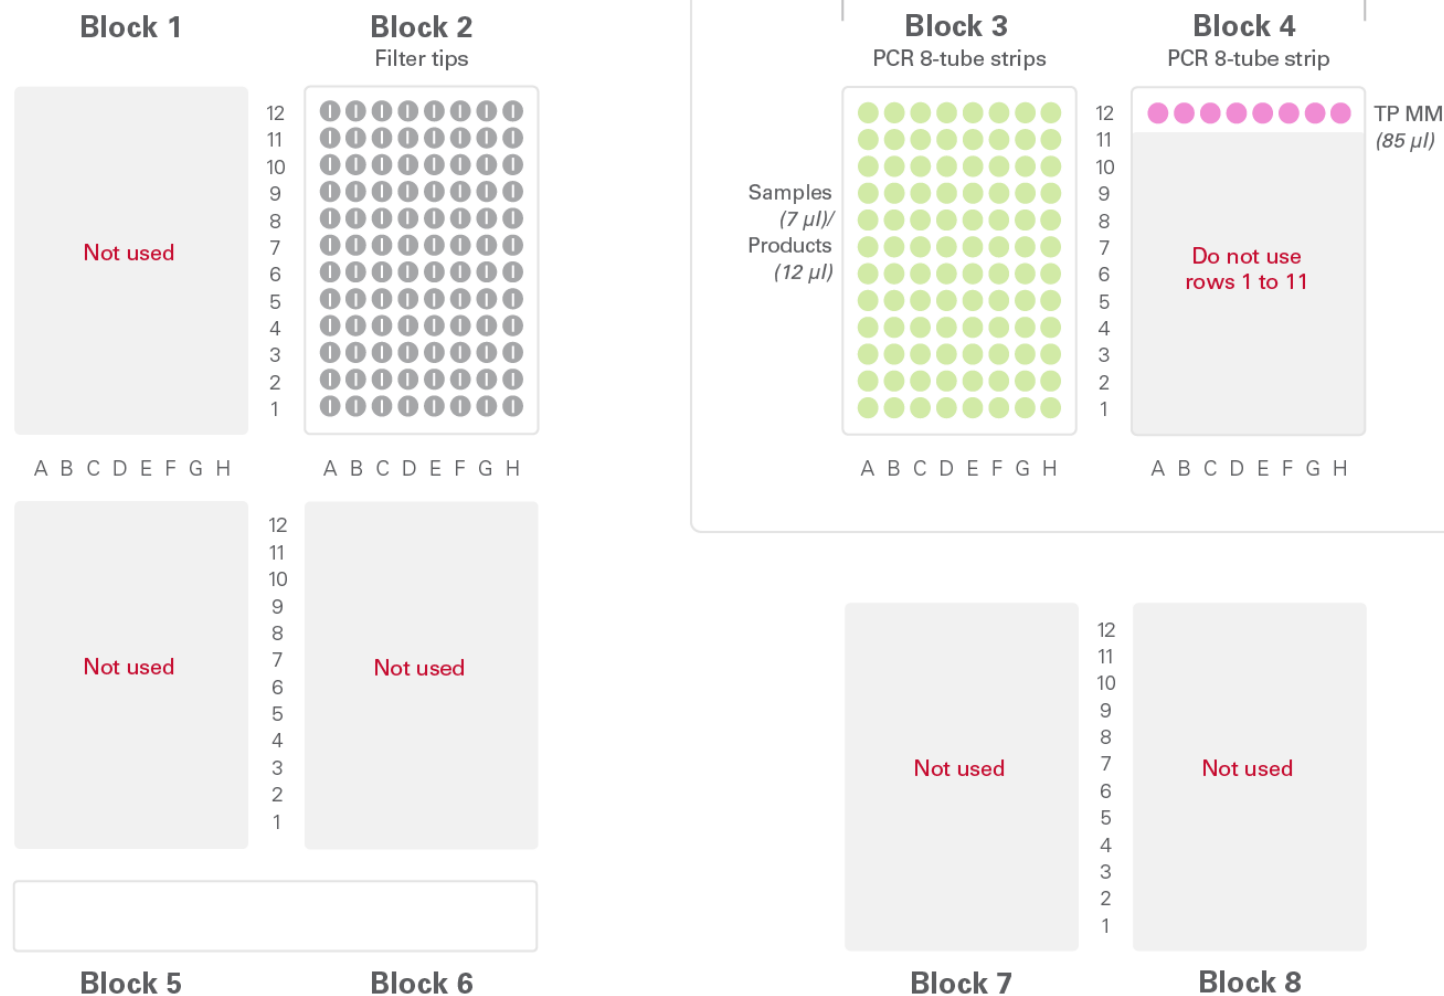

Figure 4. Deck layout for template preparation from 96 samples. For this protocol, use script `SSv4_1_Lysis_96_v1-1.scb`. Run time is 21 minutes.
4. Load consumables onto the SMARTer Apollo work surface according to the layout in Figure 4 (96 samples) or Figure 5 (12 samples). See Appendix A for deck setup using other sample numbers. First, load the consumables that do not initially hold reagents. Next, on the benchtop, aliquot reagents and samples into the indicated consumables according to the table below, and then load them onto the system just before the run.